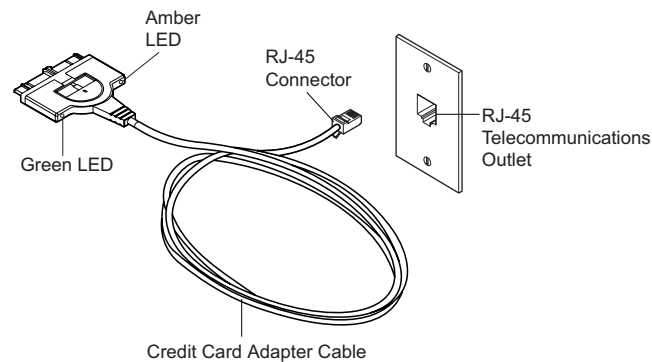

Figure 1. Connecting the adapter cable to RJ-45 outlet
- If your network uses STP or UTP cabling with an RJ-45 telecommunications outlet, as shown in Figure 1, attach the RJ-45 (8-pin modular) connector on the adapter cable (PN 31L5035) to the RJ-45 telecommunications outlet.